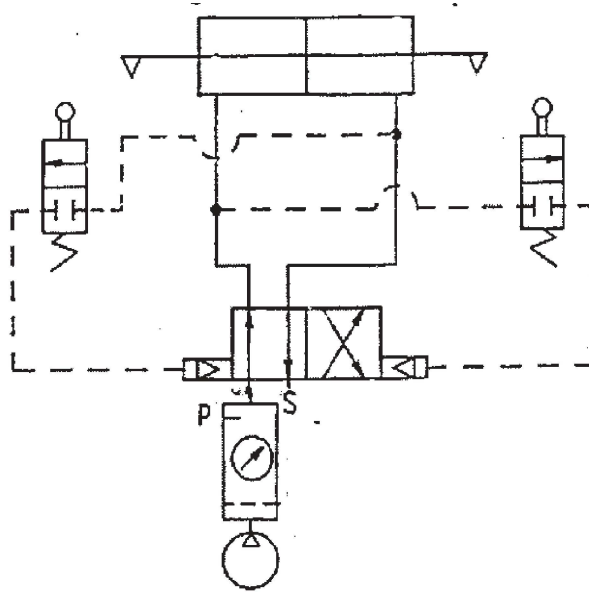

Fig.2
- c) Analyze the circuit shown Fig. 2 and label the components. [6]